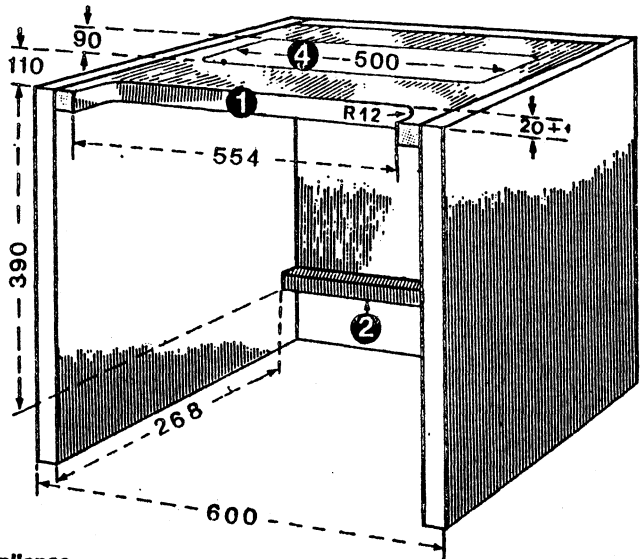

fig. 2 – recirculating air appliance –
For reasons of clearnes fig. 2 is drawn without door, all basic dimensions, however, which apply both to exhaust air and recirculating air appliance are given. The only exceptions are ③ and ④ which apply to exhaust air and recirculating air appliance respectively.